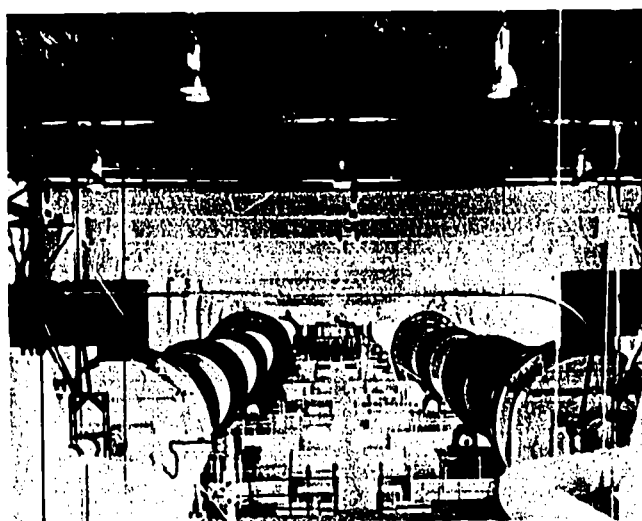

Fig. 42-8. Cement is roasted in long, rotary kilns. The raw materials are heated to 2600°–3000°F.
6. *Roasting* produces chocolate, cement, and many other industrial materials. Figure 42-8 shows a kiln in which cement is roasted.